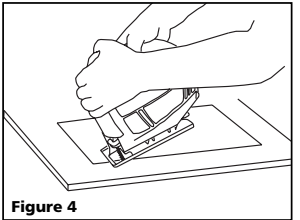

Figure 4
7. Keep both hands on the saw while cutting (Figure 4).